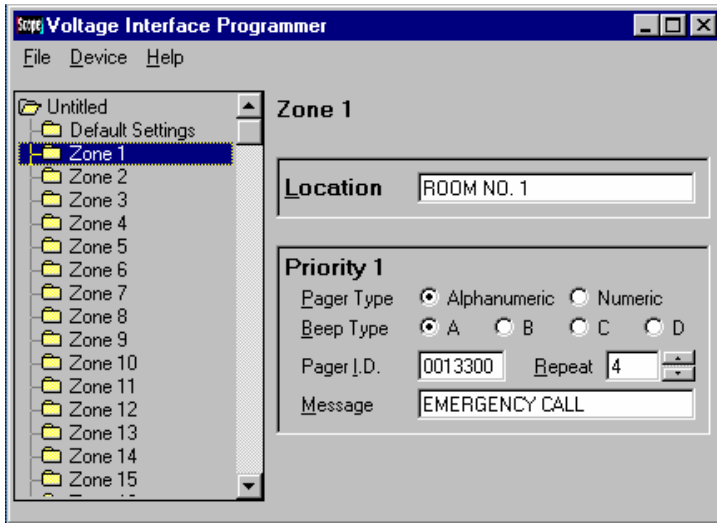

Figure 6
- f. Edit each zone to add Pager ID if different, and any corrected messages. (see figure 6)
Both VSP units can be configured to operate with a nurse call system using **ZERO to POSITIVE** pulsing. However at the present time in this configuration you will not have a [REPEAT] function on the Room Call or Standard. When voltage above a positive 12 volts is present would indicate a room call, PRIORITY 3, when the voltage dropped below 12 volts it would be in a reset condition. With this configuration the location of the message text is different. See figure 6 and 7.